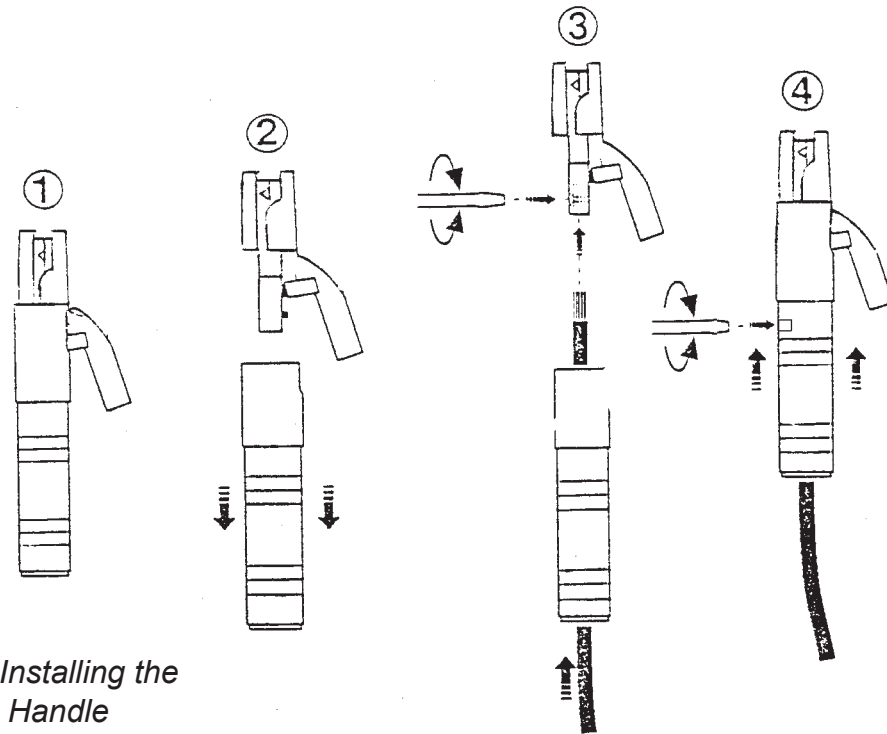

Figure 3. Installing the Electrode Handle
1. Locate the ELECTRODE CABLE (5), as shown in the parts diagram, and the Electrode Handle as shown in figure 3, Step 1 above.
3. Insert the ELECTRODE CABLE (5) through the Handle Grip, and attach to the Electrode Handle as shown in Step 3 above. Note: You must place bare end of ELECTRODE CABLE wire into opening in end of Electrode Handle, then by tightening the Screw, tighten the Clamping Plate onto the bare end of the ELECTRODE CABLE, clamping it securely into place.